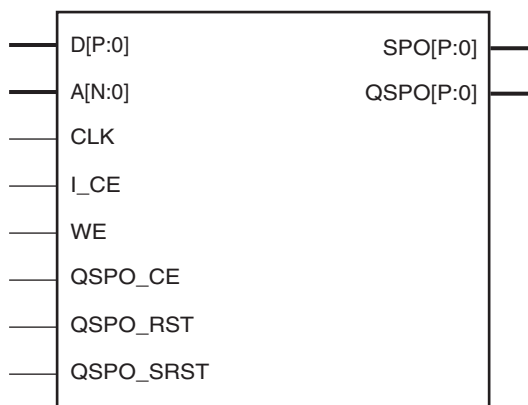
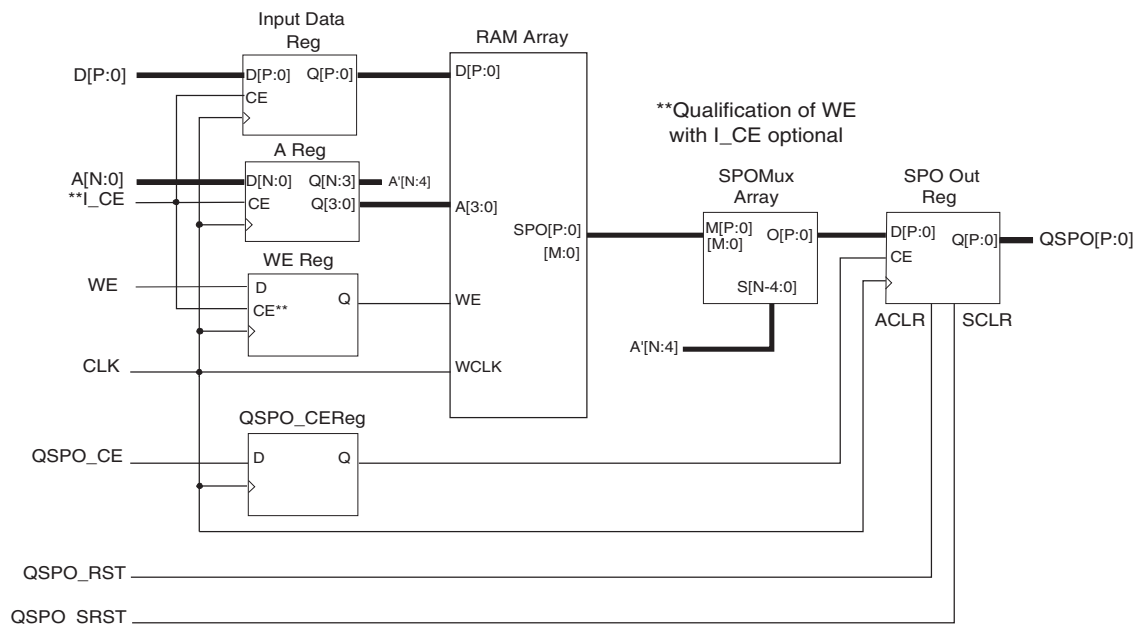

Figure 3: Distributed Single-Port RAM Schematic Symbol
Figure 4: Distributed Single-Port RAM Module Schematic
The distributed single-port RAM uses the single-port distributed RAM resource of the LUT. Writes to the Single-Port RAM are synchronous to the clock (CLK). However, read operations can be asynchronous (SPO) or synchronous to the clock (QSP0). Figure 3 illustrates the distributed single-port RAM schematic symbol, and Figure 4 illustrates its internal implementation. If a pipeline register is added to a registered core (not illustrated), the additional register is re-timed into the SPO MUX array. For timing information about the distributed single-port RAM, see the platform-specific user guide for the target FPGA architecture.
- **Single-Port RAM.** Figure 4 illustrates a schematic of the structure of the single-port RAM modules. The address and data registers are optional (controlled by the setting of the Input Options parameter). Output registering is also optional (controlled by the setting of the Output Options parameter). The resets and clock enables are optional. The clock CLK is always required because writes to the single-port RAM are synchronous to that clock.